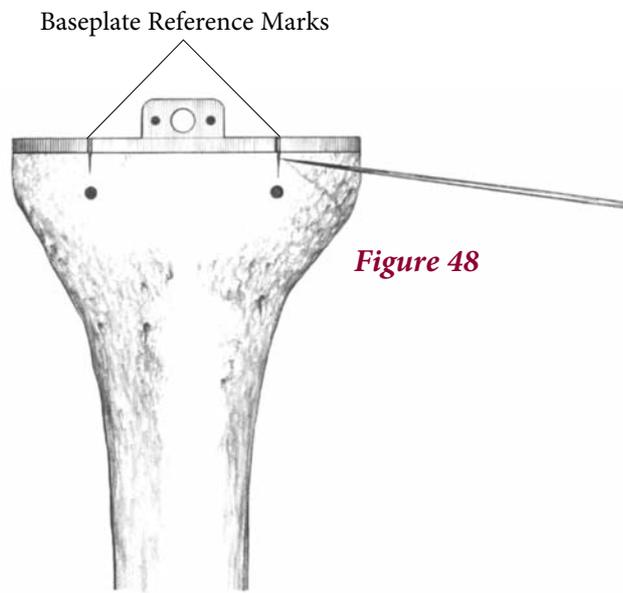

Figure 48
- ▶ Once satisfactory alignment and tibial component orientation is achieved, mark the anterior tibial cortex in line with the reference marks on the anterior border of the baseplate (**Figure 48**).